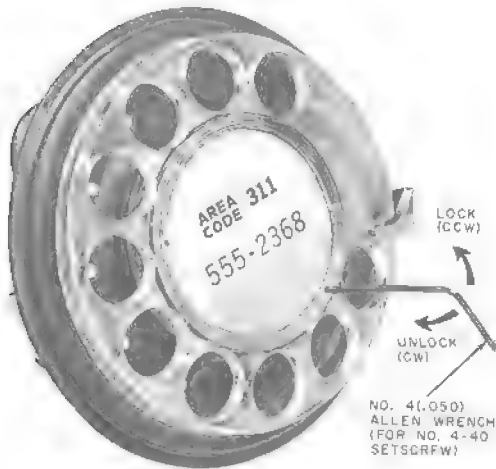

Fig. 7—Installing Fingerwheel on BU Dial
- (1) Using a No. 4 (.050) Allen wrench, turn the setscrew in a clockwise direction until it clears fingerwheel (Fig. 7)
- (1) Ensure that setscrew is all the way in (clockwise).
- (2) Place fingerwheel on dial with operator hole over the 9 position.
- (3) Rotate fingerwheel counterclockwise until it is in its normal position.
- (4) Using a No. 4 (.050) Allen wrench, turn the setscrew in a counterclockwise direction until the stop is reached (Fig. 7).